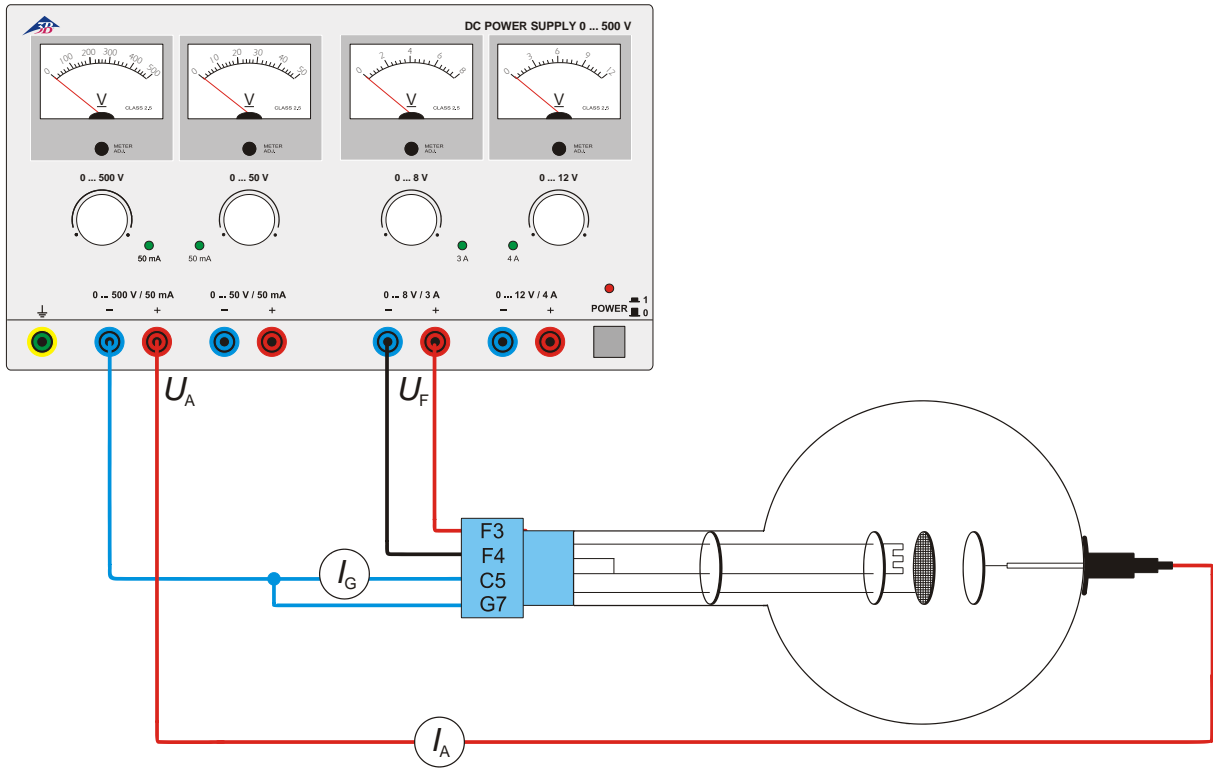

Fig. 1 Evidence for positive charge carriers
- Set up the circuit as in fig. 1.